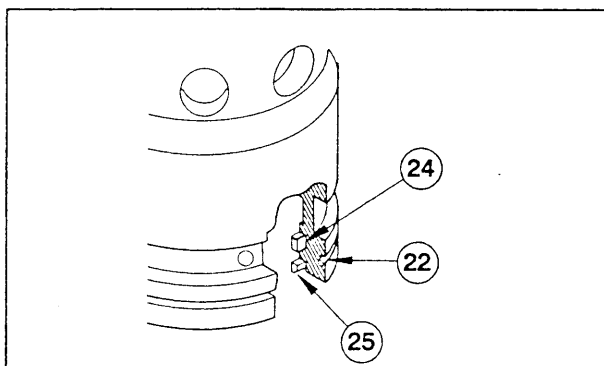

Figure 7.
1. Apply grease and install the rod seal (24) into the piston sleeve, lips facing up. See figure 7.
2. Apply grease and install the rod wiper (25) into the piston sleeve, beveled side down. See figure 7.